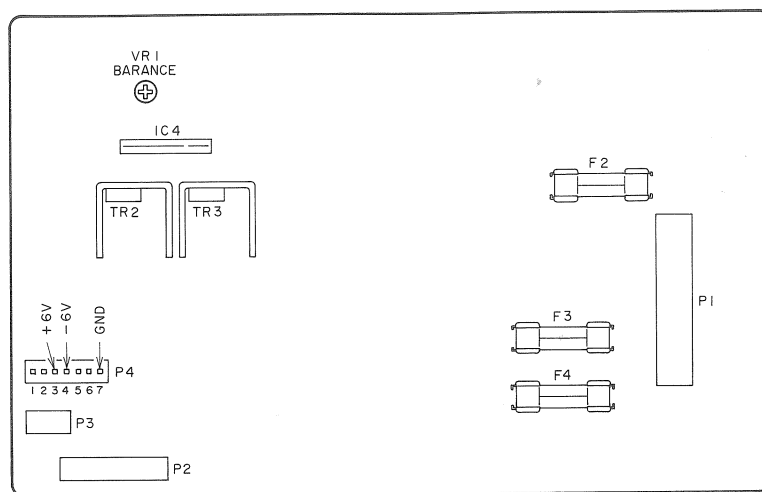

Fig. 6-1 POWER SUPPLY PCB Adjustment Points
- 1) Connect a Digital DC Voltmeter between Pin **3** (+6V) and Pin **7** (GND) of connector P4 on the POWER SUPPLY PCB as shown Fig. 6-1.